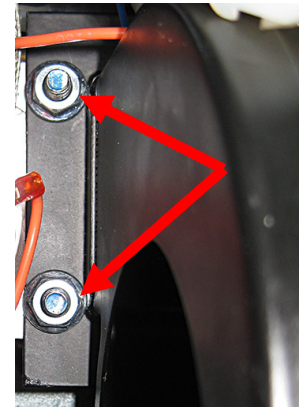

Figure 8
10. Remove the blower by removing the four (4) 7/16" nuts (2-left and 2-right) (see Figure 8).